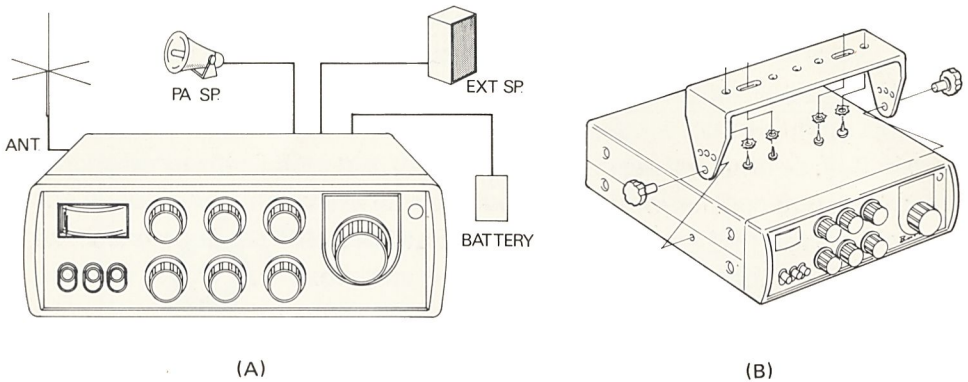

Figure 3
1. The transceiver will be mounted as illustrated in Figure 3 (B). First drill three or four holes (diameter about: 3.6 mm: 9/64") to the location to be mounted.